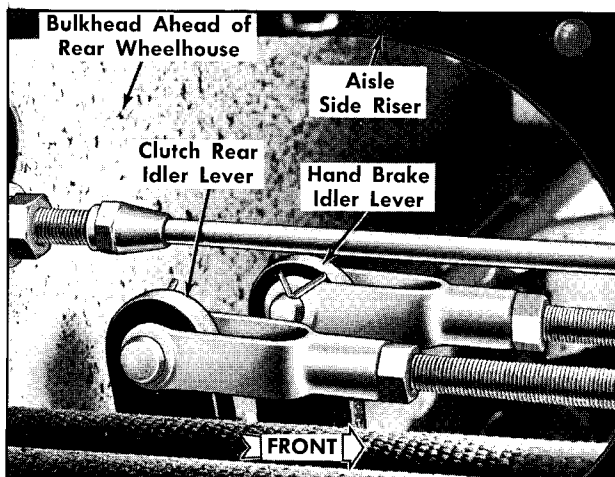

Figure 5—Clutch Control Rear Idler Lever as Seen Through Access Opening in Aisle Side Riser
3. Either of the two procedures (a. and b.) given below can be used to determine if rear intermediate lever (13) is in correct position.
a. Block the clutch pedal in fully released position with pedal pad against the floor. At engine compartment bulkhead measure distance from bulkhead to center of clevis pin in rear control rod bell crank (19). If this dimension is 1-5/8 inch to 1-7/8 inch, the rear intermediate lever (above fuel tank) is correctly adjusted.
b. Remove access cover from opening in aisle side riser to provide view of levers and rods as shown in figure 5. With clutch pedal released, measure distance from center of clevis pin in upper end of clutch rear idler lever (13) to bulkhead. Correct dimension is 2-5/32 inches.